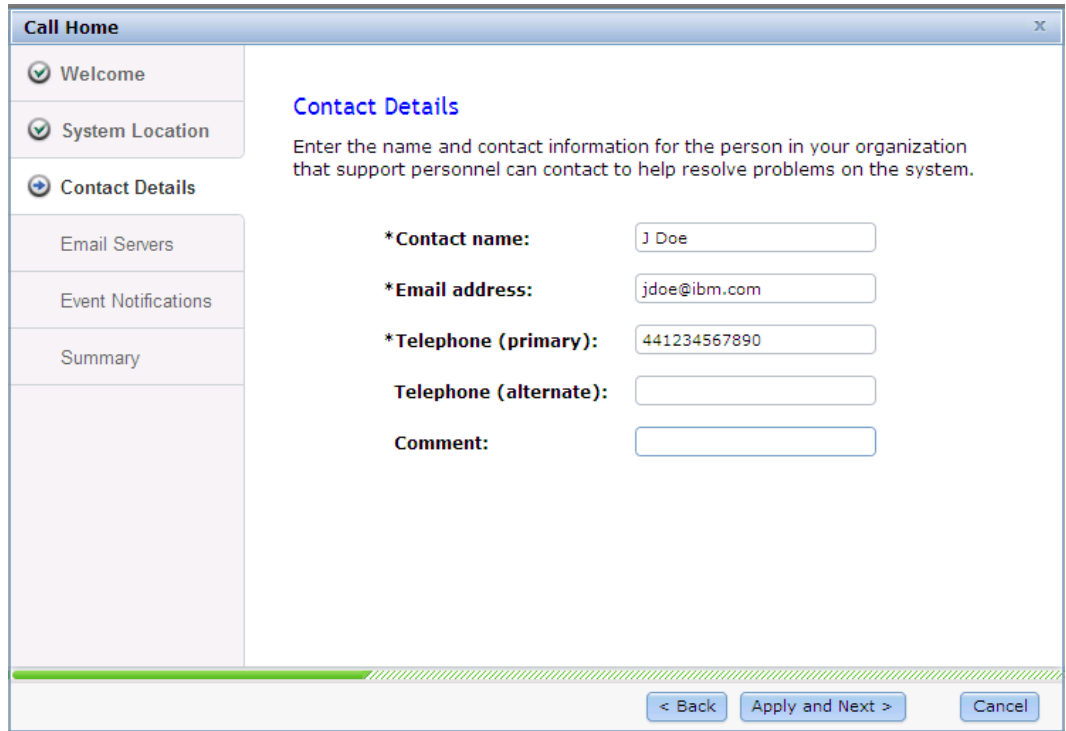

Figure 2-29 Call Home - contact details
3. You will need to enter in the contact details as shown in Figure 2-29.